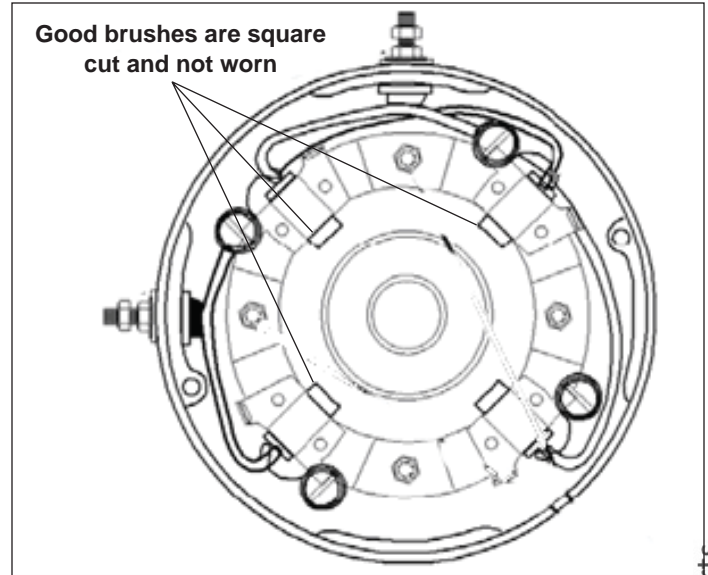

Figure 4-7. Motor Brushes
- Check motor brushes. Replace if bad or worn (Figure 4-7).